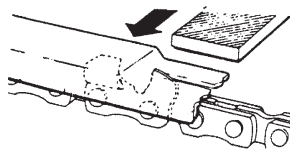

Fig. 44
- 3) Place depth gauge tool on cutter. If depth gauge projects, file it level with the top of the tool. Always file from the inside of the chain toward an outside cutter. (Fig. 44)